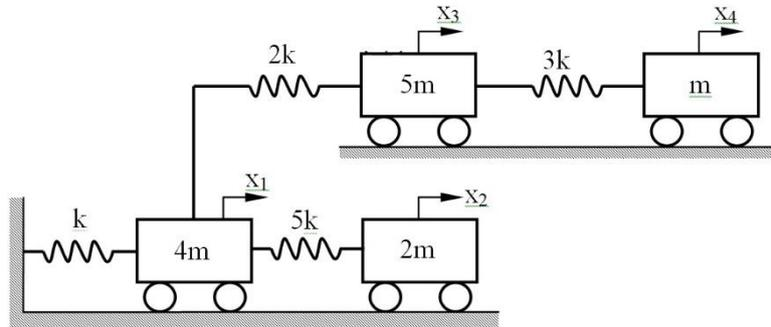

Fig. Q5(C)
- 5A Determine the shaft length 'l' of a system shown in the figure Q5(A), using Holzer's method. Take  $k_t = 10^6$  Nm/rad,  $J_1 = 20$ ,  $J_2 = 8$  kgm2,  $J_3 = J_4 = J_5 = 3$  kgm2.  $G = 80$  GPa for the shaft material. Diameter of the shaft = 100 mm. Fundamental torsional natural frequency = 53 Hz. 04
5C Find all the flexibility influence coefficients of the spring-mass system shown in 02 figure Q5(C) and express in matrix form.